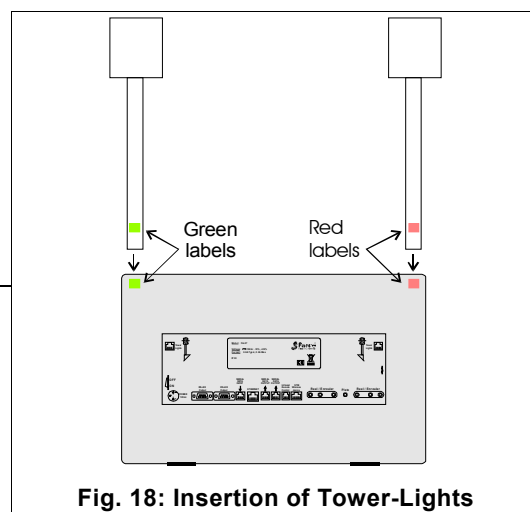

Fig. 18: Insertion of Tower-Lights
1. Identify the colour of the two Tower-Lights (red and green), indicated by a label located at the lower end of the support pole of each tower. See Fig. 18.